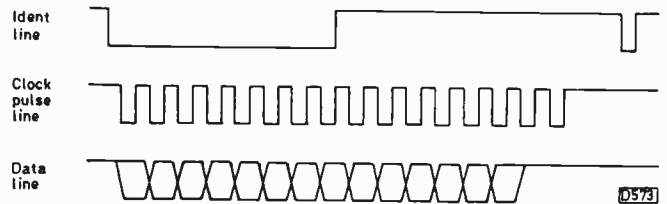

Fig. 6: Pulse timing with an IM bus.
The IM bus has three lines, ident (I), clock (C) and data (D). I and C are unidirectional between the microcontroller and peripheral devices while D is bidirectional. Data transmission originates from one place only along the bus. At the beginning of a transmission, I goes low to indicate a start condition. An eight-bit address is then sent along the D line serially, with eight clock pulses being issued – D is valid on the rising edge of C (see Fig. 6). I then goes low for the duration of an eight- or 16-bit data word travelling along D. Completion of the bus transaction is signalled by a short pulse on line I. The maximum clock speed is 170kHz.